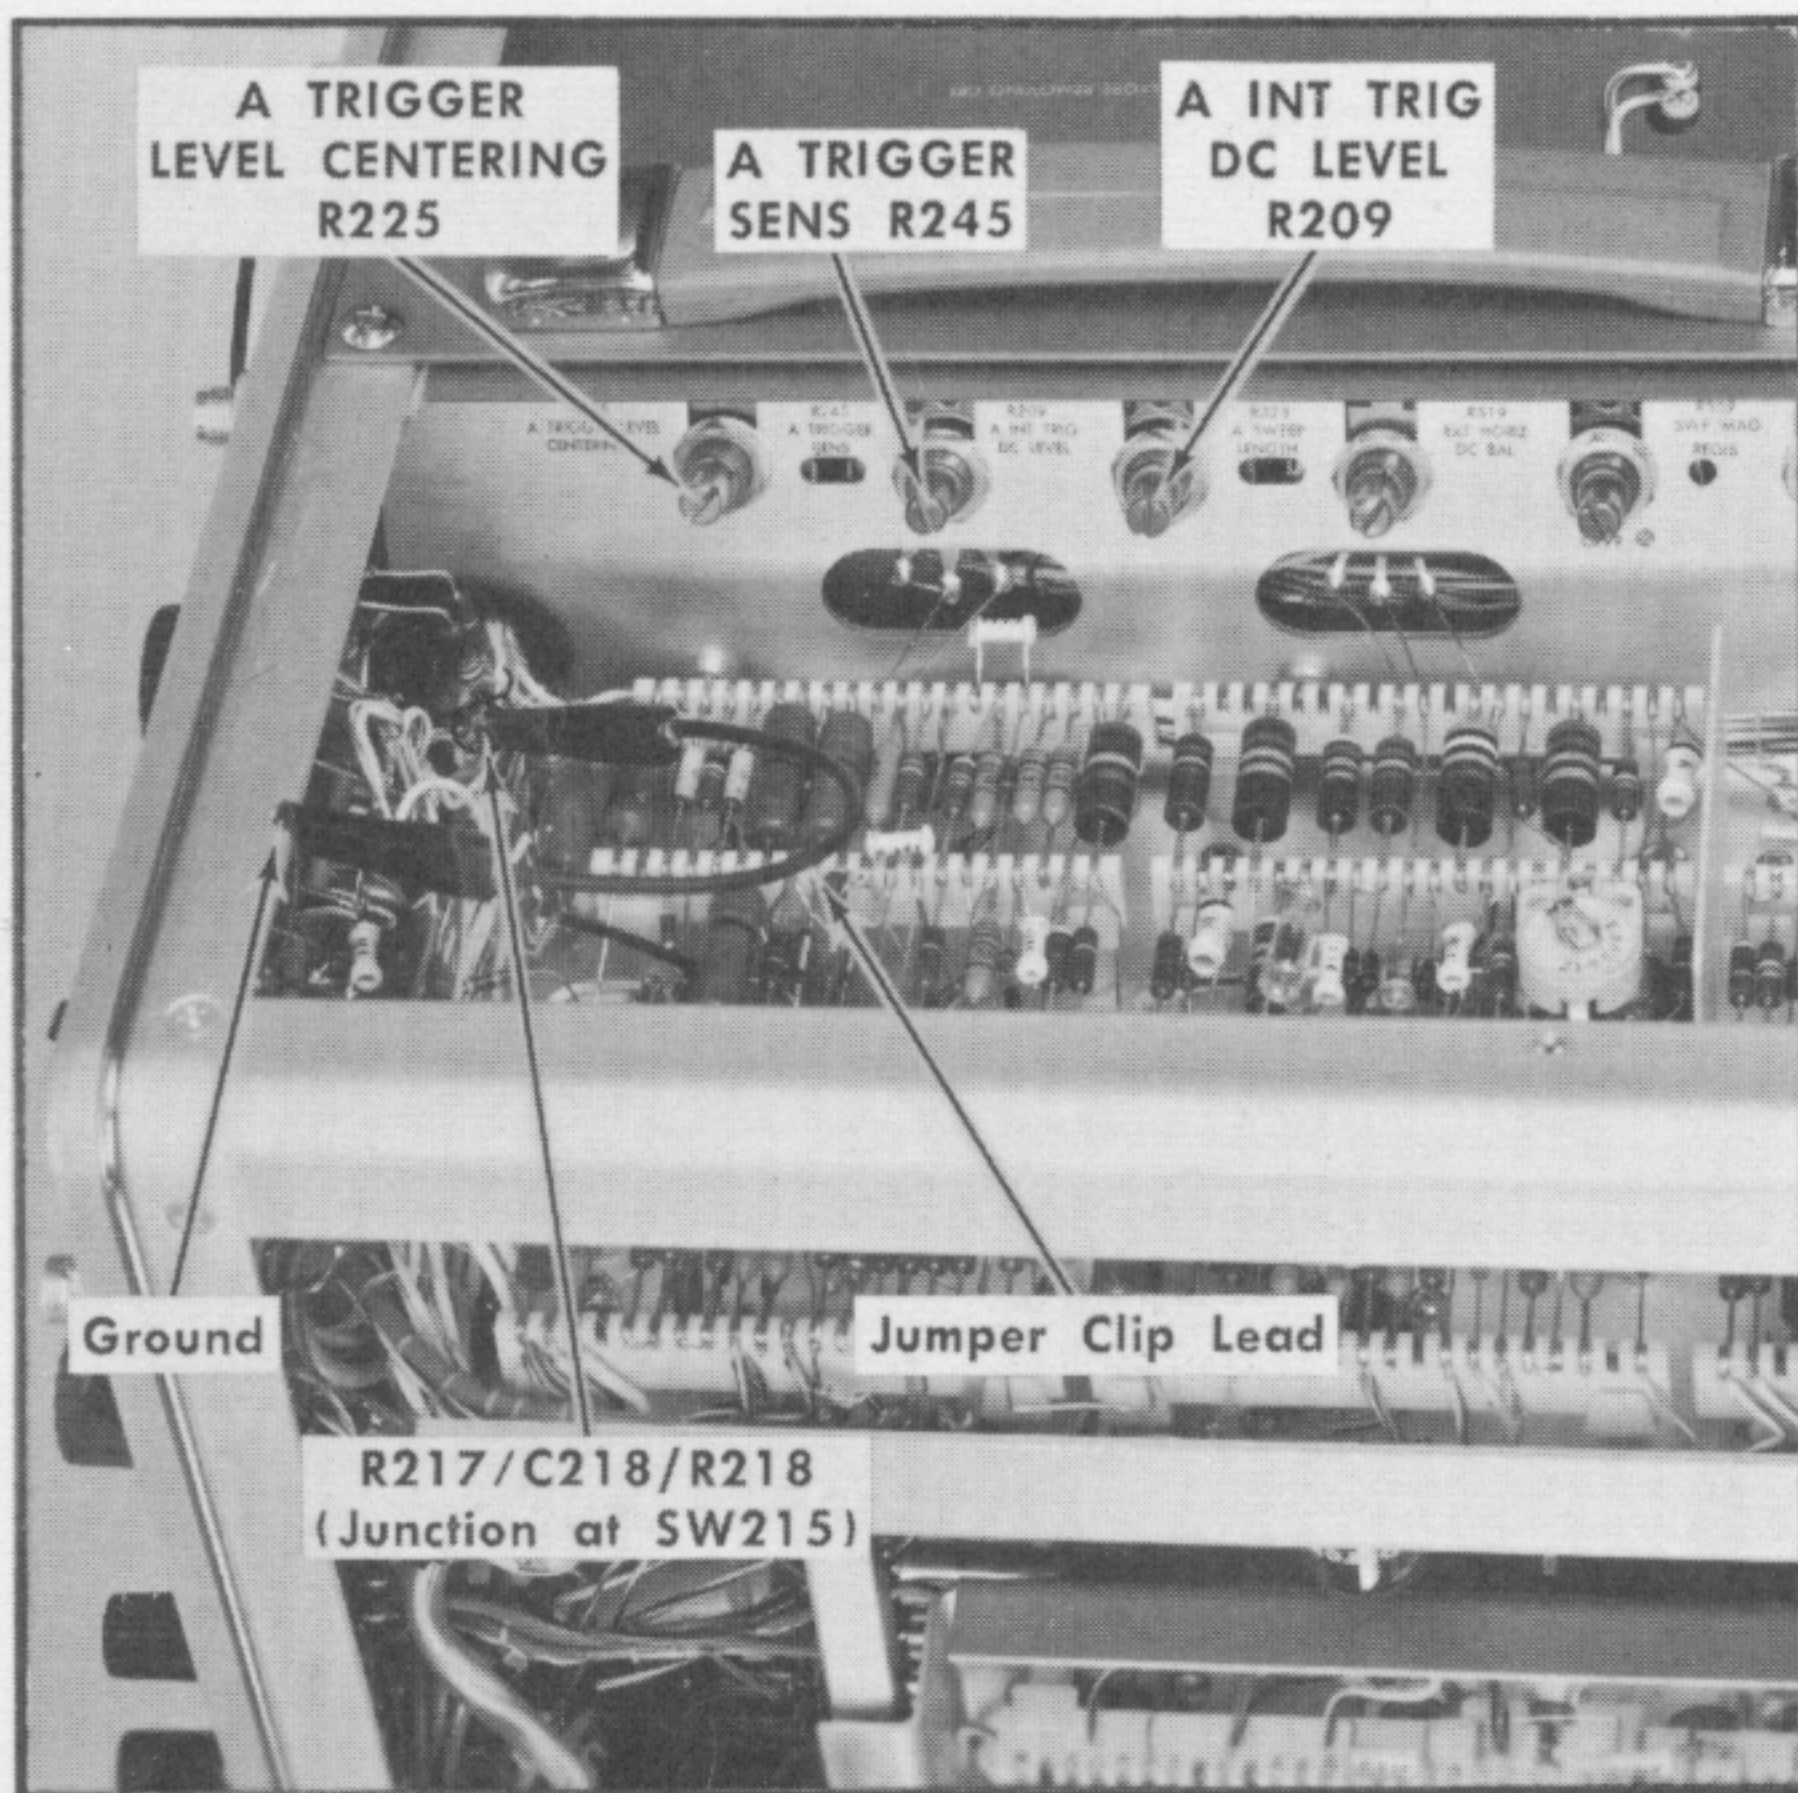

Fig. 5-5. A Trigger clip-lead connection, adjustment and test point locations (upper right corner view).
f. Locate the junction of R217, C218, and R218 (see Fig. 5-5). Connect a short jumper clip lead (item 11) between the junction and ground. This jumper disables the A TRIGGERING LEVEL control.
- g. Rotate the A TRIGGER LEVEL CENTERING R225 and A TRIG SENS R245 controls (see Fig. 5-5) fully clockwise.
- Adjust the A INT TRIG DC LEVEL R209 control (see Fig. 5-5) to obtain a stable display. (With the 'A' SLOPE switch set to +, the sweep trace should start on the positive-going rise of the calibrator waveform.)